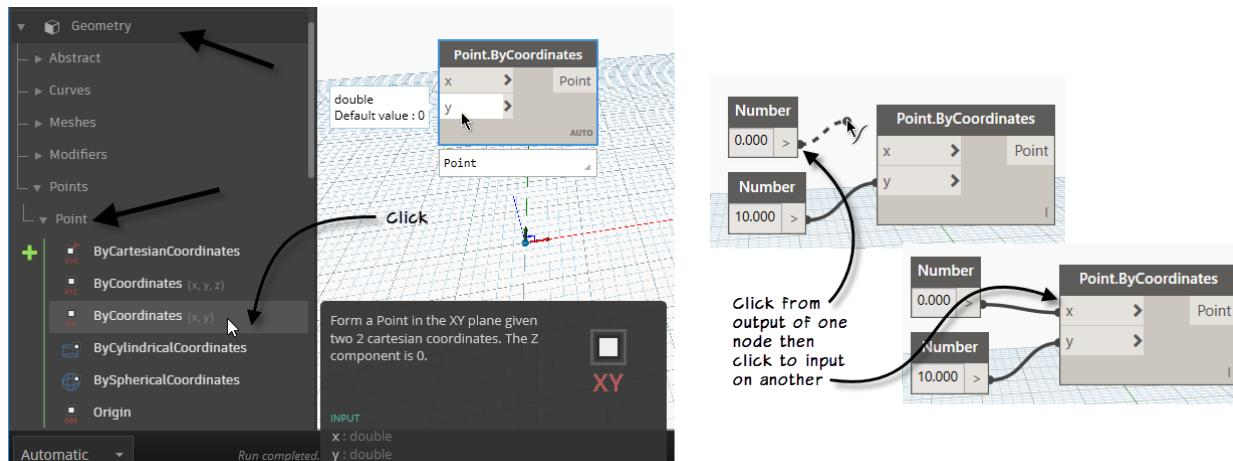

Figure 10
2. In the Library, click on: *Geometry*, then *Points*, then *Point* and then ***ByCoordinates (x,y)*** (see the left side of Figure 10).
5. Click on the output port (right side) of the first **Number** node and connect it to the **x** port of the **Point.ByCoordinates** node. Repeat for the second **Number** connecting it to the **y** port (see the right side of Figure 10).